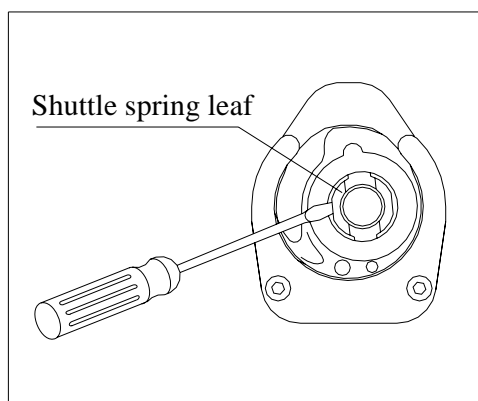

Fig.7
(2) The lower thread is adjusted through the inner shuttle spring leaf. Prize up the spring leaf with screwdriver (Fig.7) and the lower thread will be tightened.